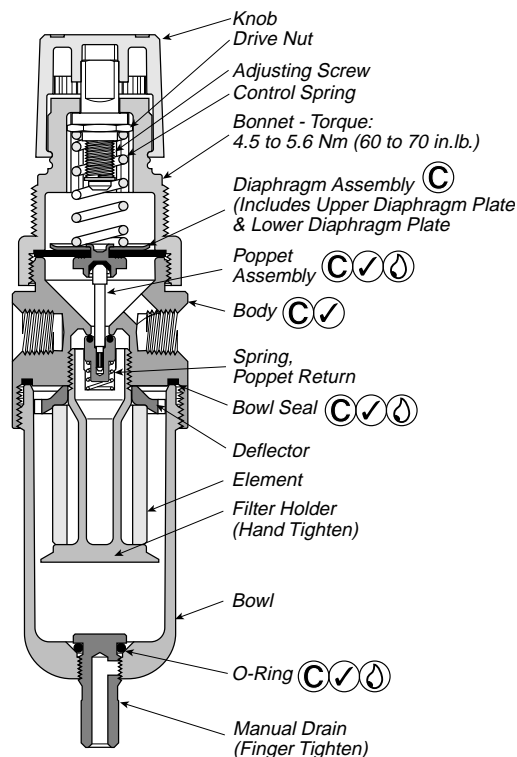

Figure 1
- Install diaphragm assembly into body assembly. Assemble bonnet assembly onto body and tighten per Figure 1.
Servicing Filter Element - (Refer to Figure 1)
Servicing Regulator - (Refer to Figure 1)